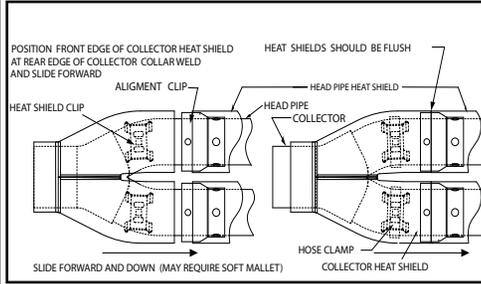

FIGURE 6
8. Install exhaust port flanges and circlips (from stock system) onto head pipes (Figure 6).